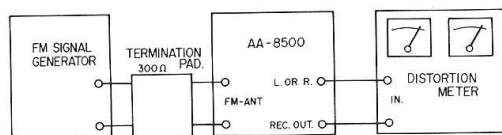

Fig. 9
(1) Instrument Connections
- Connect the Distortion Meter to "TAPE-REC" terminal on rear panel (See Fig. 9).
(2) Adjustments
Use the same instruments as used in item 3-3 (Fig. 9), and connect them in the same way.
- Use the same instruments as used in item 3-3 and connect them in the same way. (Fig. 9) Set the signal generator frequency to 98 MHz, and the output to 60 dB (1 mV). Turn the tuning dial of AA-8500 to receive this signal.